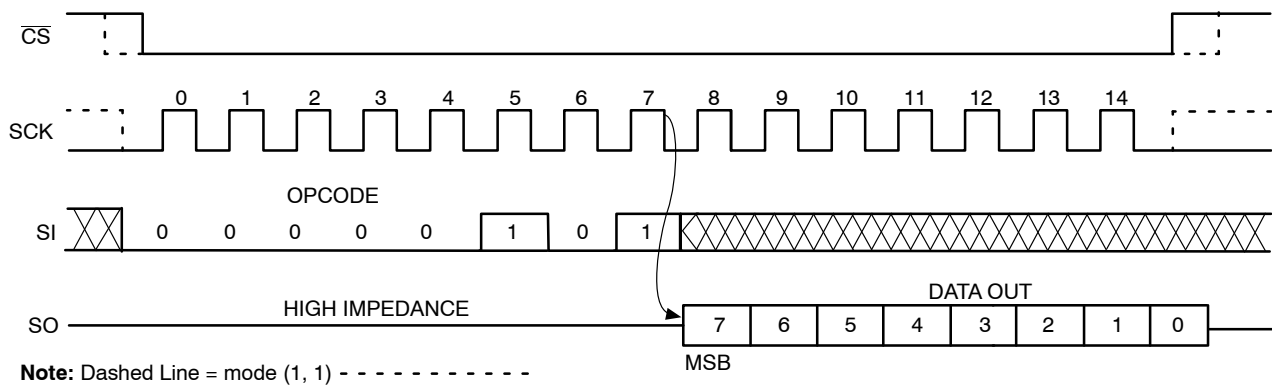

Figure 10. RDSR Timing
Reading the additional 256-byte Identification Page (IP) is achieved using the same Read command sequence as used for Read from main memory array (Figure 10). **The IPL bit from the Status Register must be set (IPL = 1) before attempting to read from the IP.** The [A7:A0] are the address significant bits that point to the data byte shifted out on the SO pin. If the  $\overline{\text{CS}}$  continues to be held low, the internal address register defined by [A7:A0] bits is automatically incremented and the next data byte from the IP is shifted out. The byte address must not exceed the 256-byte page boundary.
To read the status register, the host simply sends a RDSR command. After receiving the last bit of the command, the CAT25AM02 will shift out the contents of the status register on the SO pin (Figure 10). The status register may be read at any time, including during an internal write cycle.